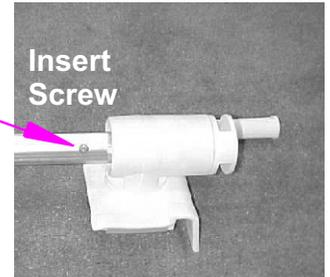

Fig. 8
- Attach each end to tube by installing one self-drilling screw through drill line, 1" (2.5 cm) from the tube end at BOTH ends (see Fig. 8).